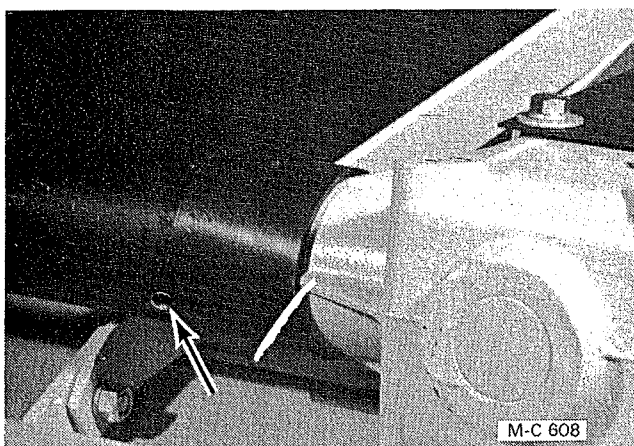

Figure 16
4. Output shaft universal joint (1). Reach through hole in output shaft guard, see Figure 16.